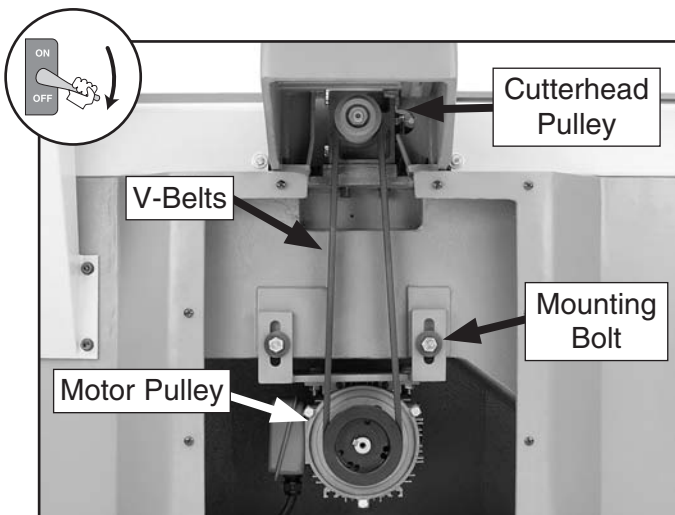

Figure 55. V-belts and pulleys.
2. Remove the rear access motor cover to access the V-belts (see **Figure 55**).